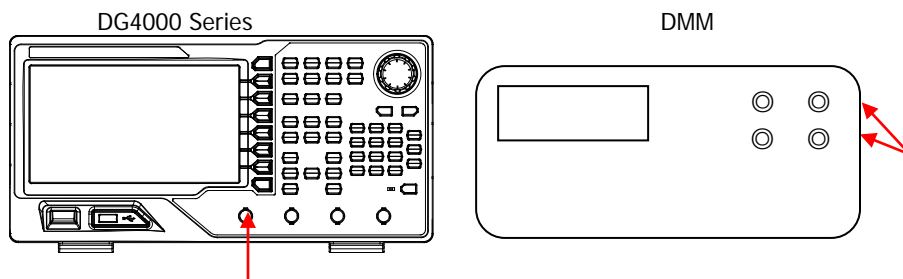

Figure 2-3 Connect DG4000 and the Digital Multimeter
1. Make sure that DG4000 has been warmed up for 30 minutes. Connect the channel output terminal (take CH1 as an example; the calibration method is also applicable to CH2) of DG4000 with the voltage input terminals of the digital multimeter using the BNC - dual banana cable as shown in Figure 2-3.
Remove the 50 Ω load and connect the digital multimeter and the channel output terminal of DG4000 directly (the connection method is as shown in Figure 2-3). Press **MeasVal** and the MeasValue column of the point selected becomes editable. At this point, use the numeric keyboard or the knob and direction keys to input the current measurement value of the digital multimeter. Press **EnterVal** and the prompt message telling you to